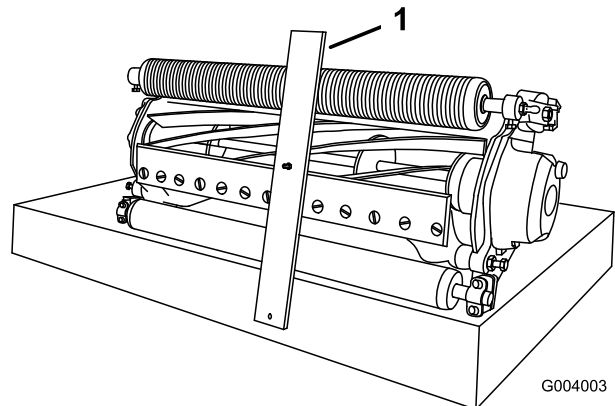

Figure 16
- Hook the bolt head of the height-of-cut gauge onto the right side of the cutting edge of the bedknife and rest the rear end of the bar onto the rear of the roller (Figure 16).